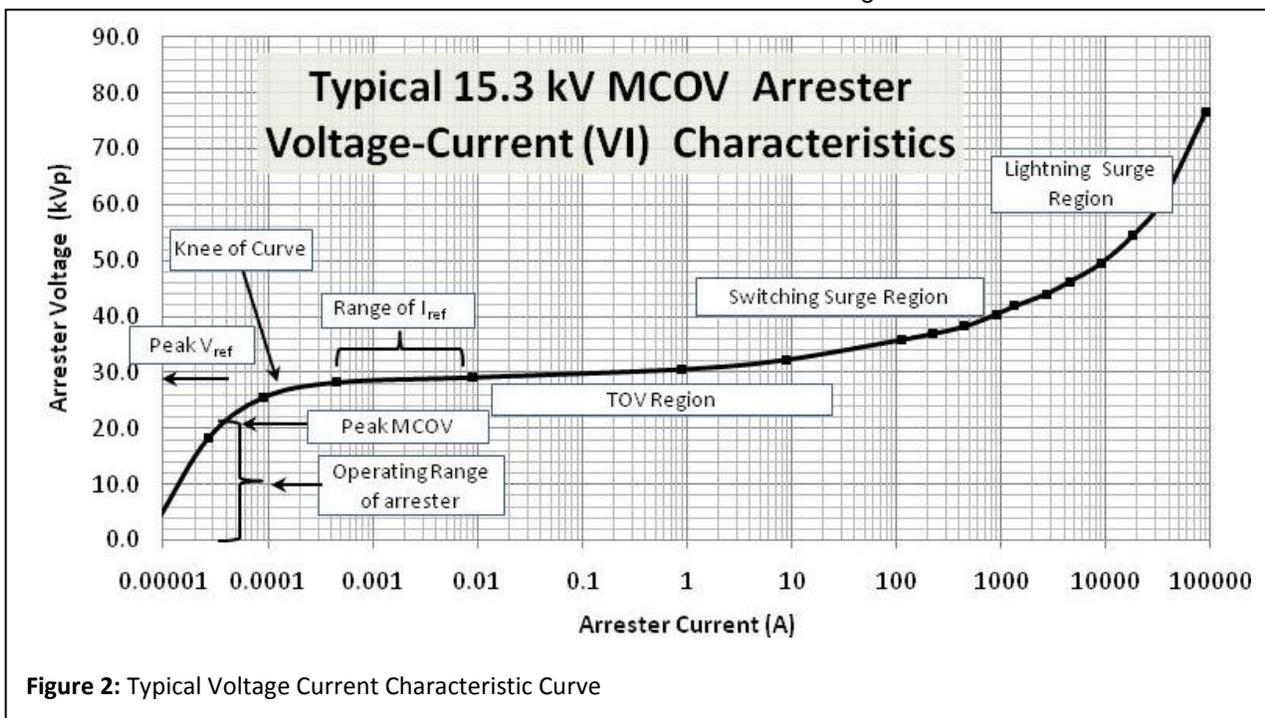
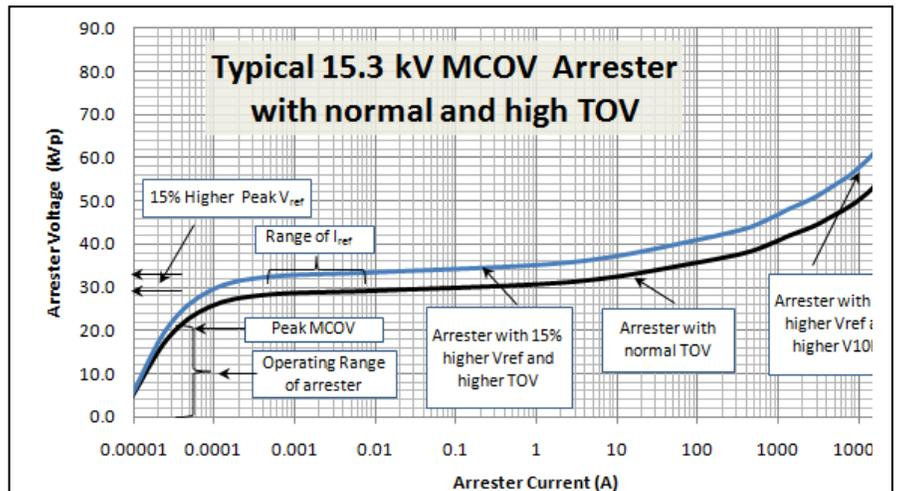

Figure 2: Typical Voltage Current Characteristic Curve
Figure 6: 15.3kV MCOV Arrester with two different Reference Voltages and TOV
A varistor is a variable resistor with its resistance controlled by the voltage stress impressed across the device. The varistor and arrester Voltage-Current Characteristic Curve (VI Curve) is the fundamental and simple way of showing how the resistance changes as a function of the voltage. This characteristic curve is used in many ways, and is heavily relied upon to understand and predict the performance of an arrester. Figure 2 is a typical VI curve for a 15kV MCOV arrester. Once a VI curve is determined for a varistor disk, the data can be used to predict the full arresters characteristics.
VI Curves often show only one polarity of the conduction curve of a varistor as does the one in Figure 2. Varistors are bidirectional devices, and the characteristic curve in the negative direction is identical for new non-impulsed varistors.
Some important points on the VI curve are called out in Figure 2. These points are described in more detail here:
3. **Knee of the Curve:** This is a loosely used term that roughly describes the voltage stress region where the conduction paths through the varistor rapidly change from the operating or leakage region to the conduction region. On a log-linear scale as shown in Figure 2, it appears as a knee on the curve.
It is not obvious, but if a closer look is taken at the VI trace in Figure 2, it can be seen that Vref level and TOV level are very close together. This relationship is fairly constant across all arrester designs. In other words, by design, Vref and VTOV will be close. However the ratio between Vref and MCOV is completely at the discretion of the arrester designer. If it is desirable for an arrester to have a better TOV withstand capability, the arrester can be de-rated so that there is more distance from MCOV peak and Vref. This is easily done by adding more disks to an arrester design. However as it can be seen in Figure 6, it also increases the discharge voltage at 10kA which is not usually desirable.